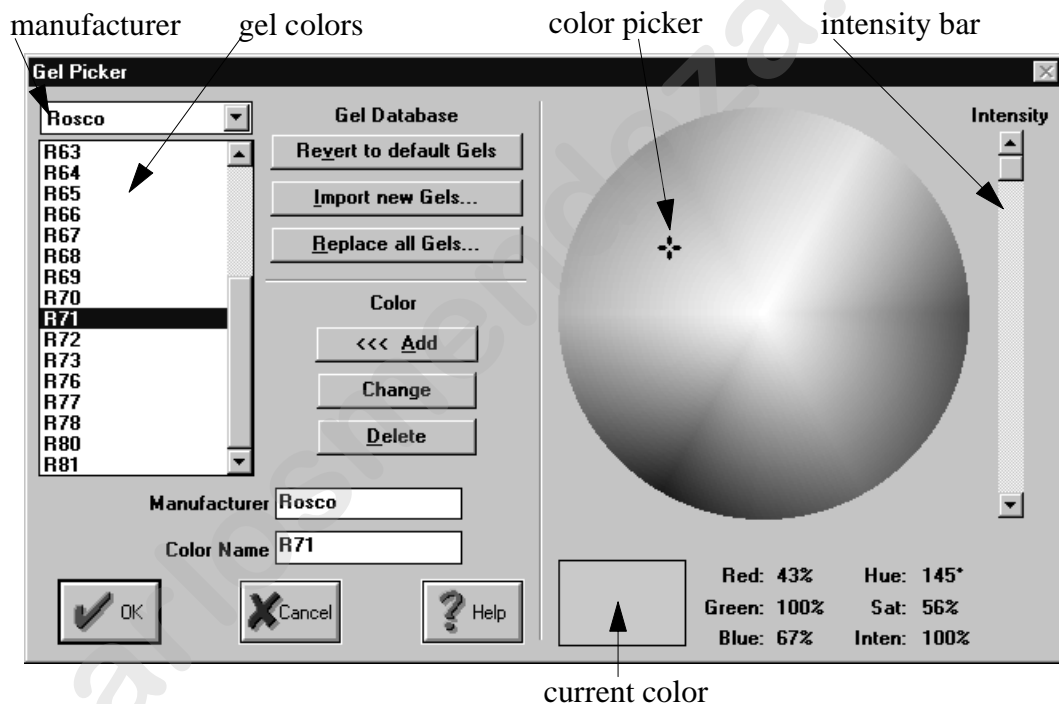

Figure 5.25. Gel Picker Dialogue Box
1. Press the <GEL> key in the COLOR MIX group (Figure 5.23) to bring up the **Gel Picker** dialogue box. Refer to Figure 5.25. Alternately, select the **Gel Picker...** item from the **Window** drop-down menu.
1. Press the <GEL> key in the COLOR MIX group to bring up the **Gel Picker** dialogue box. Refer to Figure 5.25. Alternately, select the **Gel Picker...** item from the **Window** drop-down menu.
1. Press the <GEL> key in the COLOR MIX group (Figure 5.23) to bring up the **Gel Picker** dialogue box. Refer to Figure 5.25.